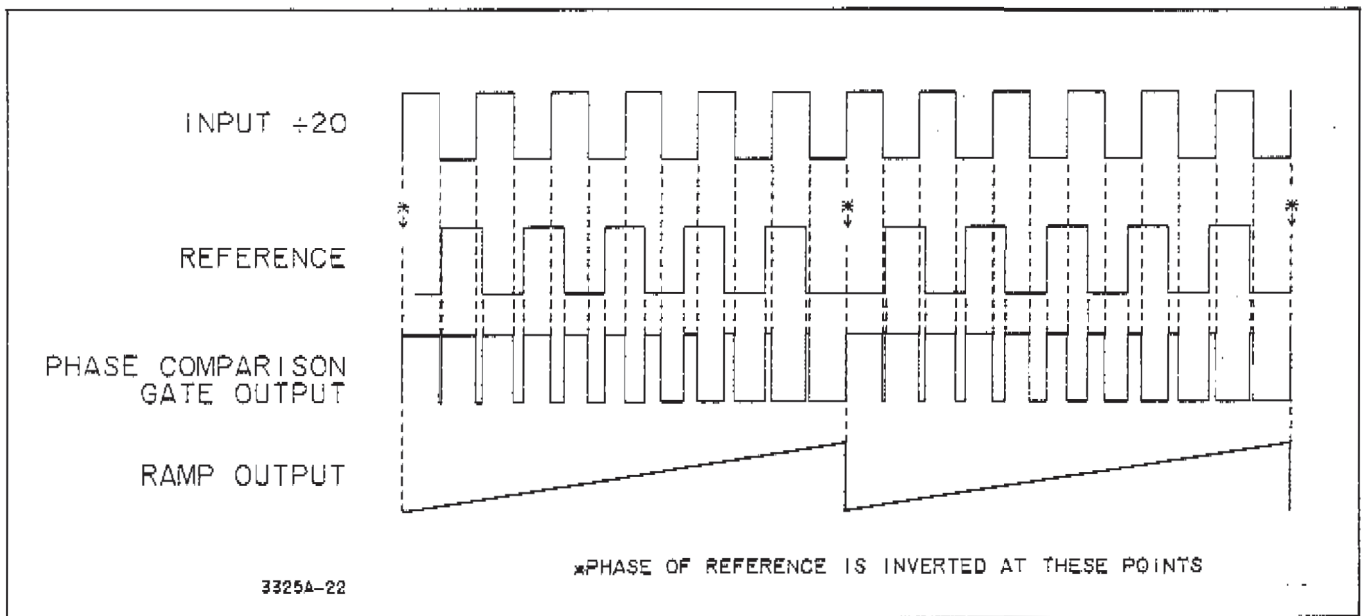

Figure 8-22. Simplified Illustration of Ramp Generation.
**8-65. Positive and Negative Ramp.** A ramp output is generated in the same manner as the triangle, except that when the phase difference between the 1 MHz reference and the input  $\div 20$  has advanced  $180^\circ$ , the reference is inverted by the ramp reset circuits (Figure 8-20). Figure 8-22 illustrates the ramp generation process. Because the phase difference is allowed to advance only  $180^\circ$  instead of  $360^\circ$  as in triangle generation, the frequency of the "input  $\div 20$ " signal to the phase comparison gate must be 1 MHz plus one-half the output frequency. For the maximum ramp output frequency of 10 kHz: